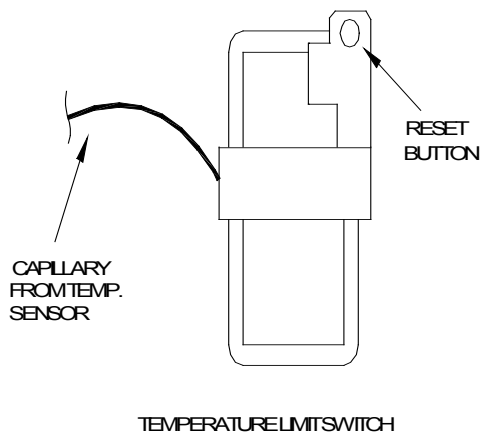

Figure 6.2
2. Lower the operating temperature limit switch setting to match the outlet water temperature. (See Fig. 6.2).